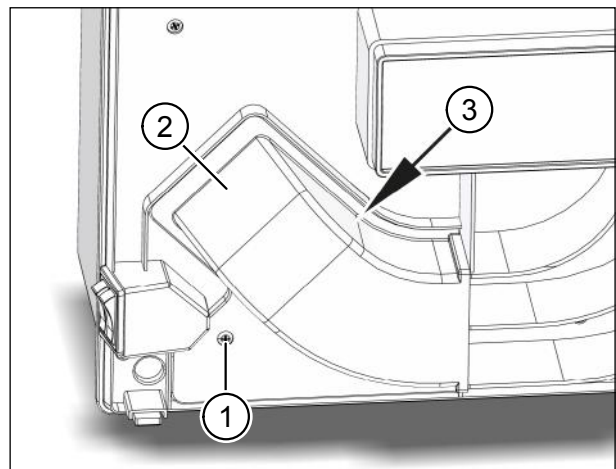

Fig. 24: Removing the supply air hood
- ▶ Use the screwdriver to loosen the screw (item 1 in Fig. 24) on the supply air hood (item 2 in Fig. 24).
- ▶ Hold the supply air hood by the curved walls and press against the pressure point (item 3 in Fig. 24). This will release the latch connection and you can now remove the supply air hood.